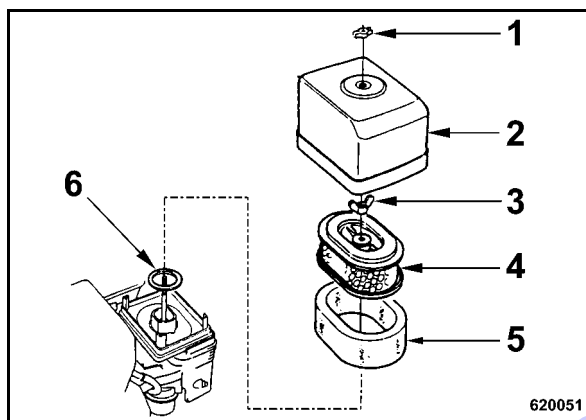

Fig. 75
- Unscrew wing nut (1) (Fig. 75) and remove the housing cover (2).
- Unscrew wing nut (3) and take off paper element (4) with the foam rubber insert (5).
- Check the rubber seal (6), replace if necessary.